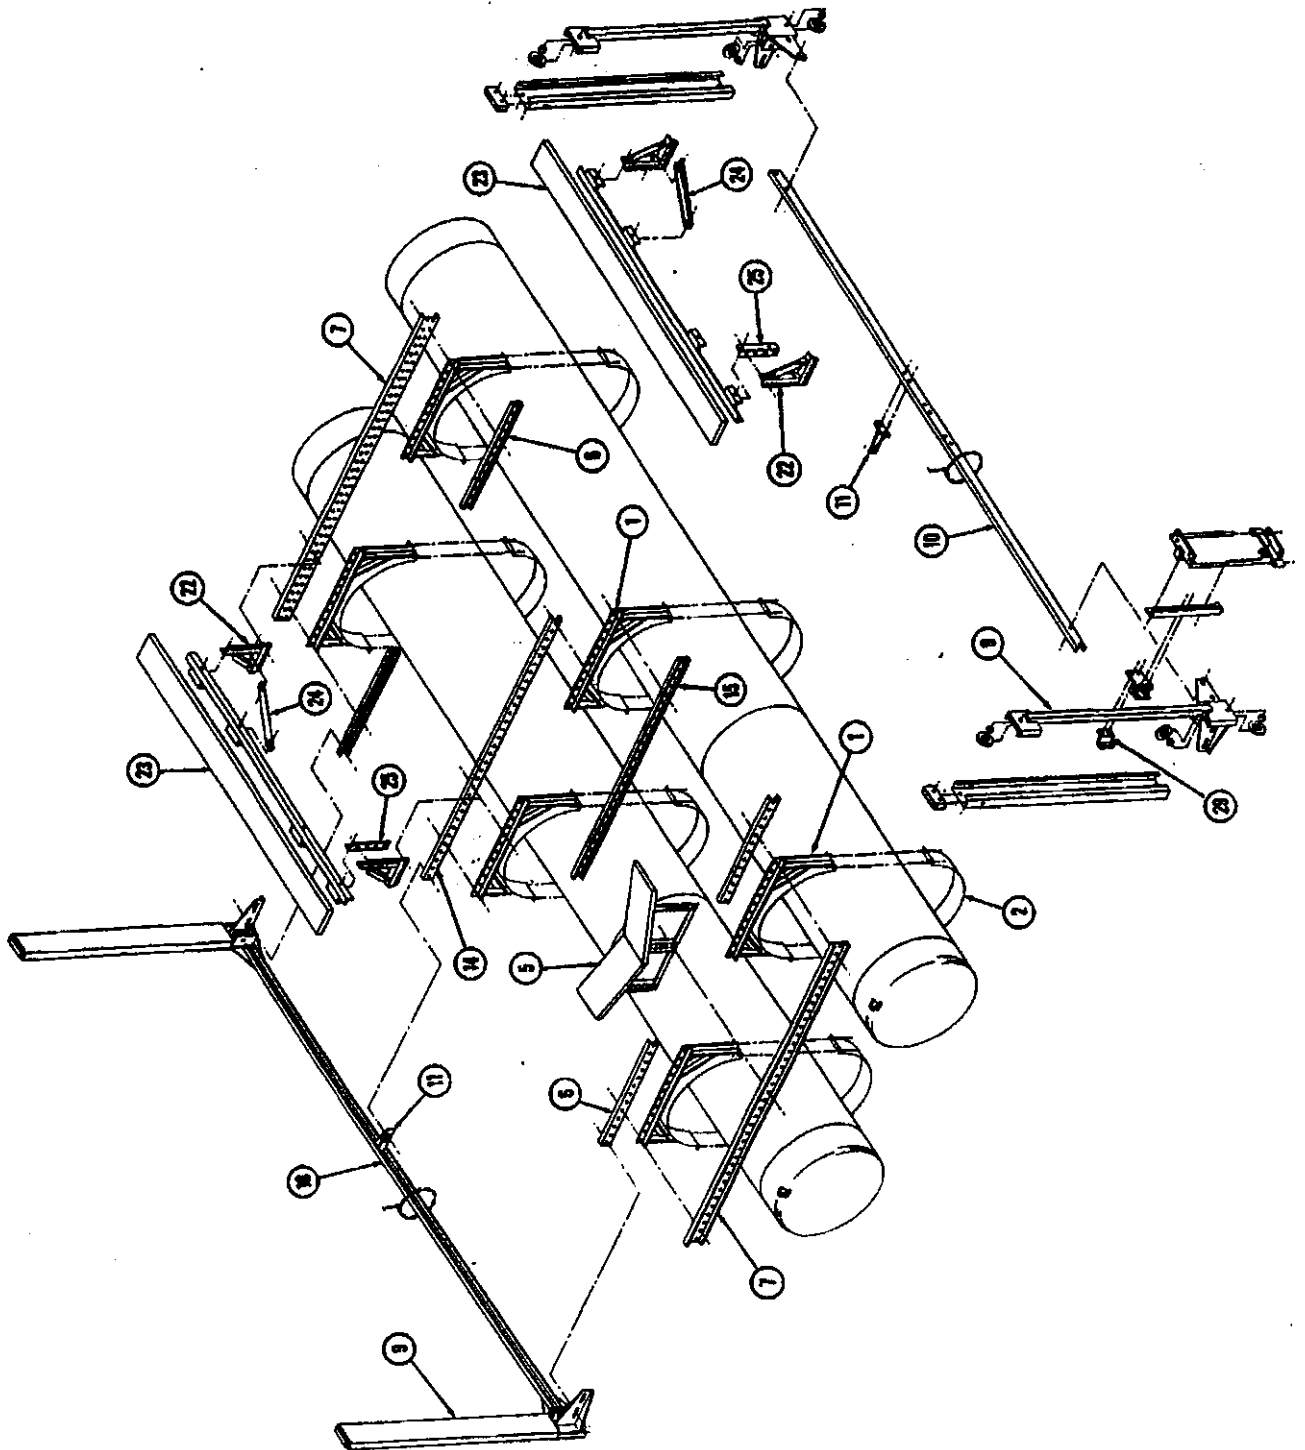

FIGURE 4. 10000C EXPLODED VIEW
- 15.(15) Center the middle tank (8) and attach to the front (7) and rear end channels using six 1/2 x 1 1/2" bolts, nuts, and lockwashers.
- 16.(10,12,15) Install a cable support assembly (9) on the end channel (6) at each corner of the hoist. Make certain that on each side of the hoist the side rail attach flanges are pointing toward each other. Attach each cable support with two 1/2 x 1 1/2 " blot, nut flatwasher and lockwasher. Flatwashers against the slot. Do not tighten.
- 17.(4,6,8,82t) Install a cable support assembly (9) on the channels (3,4) at each corner. Make certain that the bottom pulley of the cable support assembly that guides the cable across the lift is located between the front and rear channels of the lift. If not remove and install pulley on opposite side of the post. Attach cable post to end channel as in step 16.
- 18.(ALL) Install a side rail (10) between the cable supports (9) on each side of the hoist. Attach each with fou: 1/2 x 1 1/2" bolt, nut, flatwasher, and lockwasher. Do not tighten.
- 19.(10) Install a center channel mount (11) to each side channel (10) to align with the middle tank brackets. Refer to figure 4 and note that the mounts face in the opposite direction. Attach.
- 20.(10) Install a long (7' 11") center channel (14) to the right bracket (11) with the bracket between the flanges of the channel(14). Attach with one 1/2 x 1 1/2 bolt, nut, flatwasher, lockwasher.
- 21.(10) Install a short (6'8") center channel (15) to the left bracket between the flanges of the channel. Attach as in step 20.